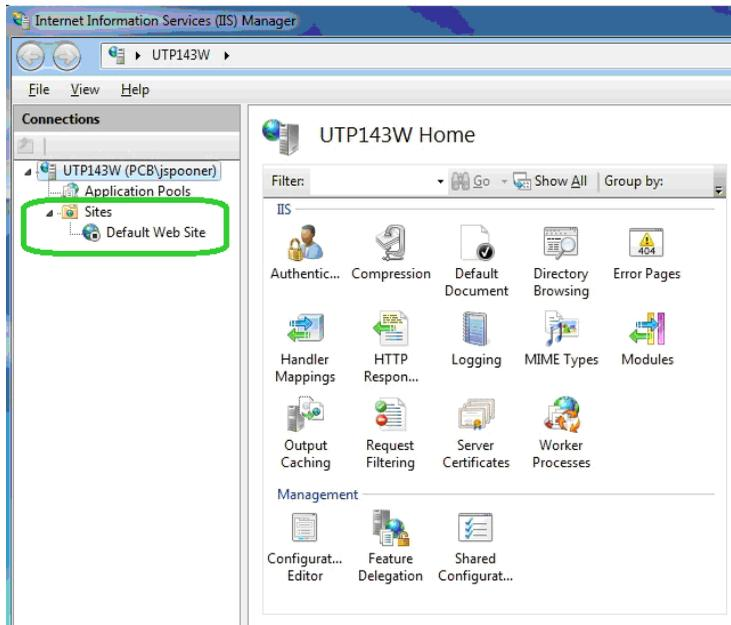

FIGURE 2-4 IIS Manager - Expand Sites
Step 5 Depending on your operating system, you may have the option of creating a new web site. Otherwise, you may be provided only with the default web site option, as shown in FIGURE 2-4.